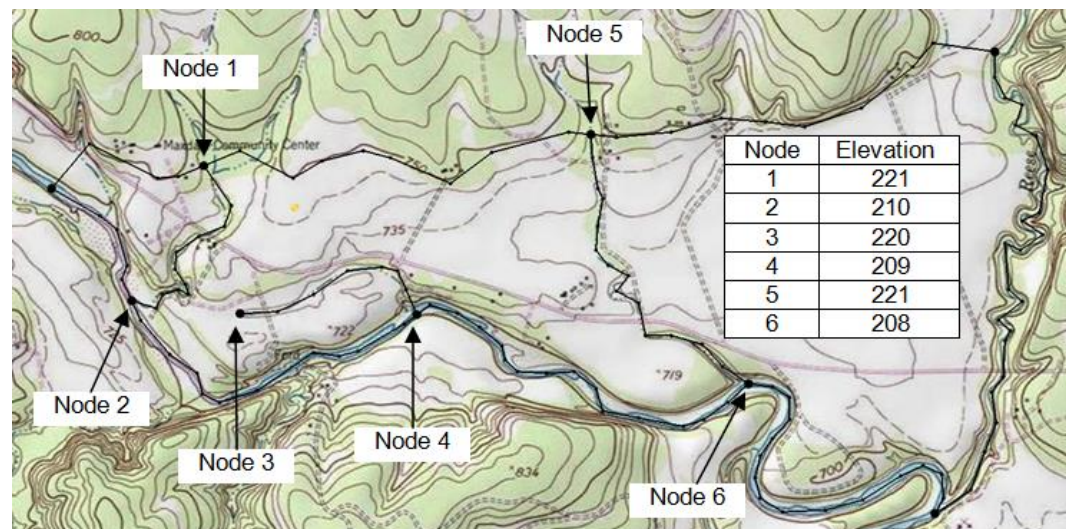

Figure 5 Elevations for drain nodes
12. Double-click on Node 2 in Figure 5. Notice that this node has two properties associated with it since it is attached to 2 arcs of different types.
Repeat this procedure to assign the drain elevations to the nodes shown in Figure 5. Be sure to change the *drain* property only, and NOT the *spec. head* property.